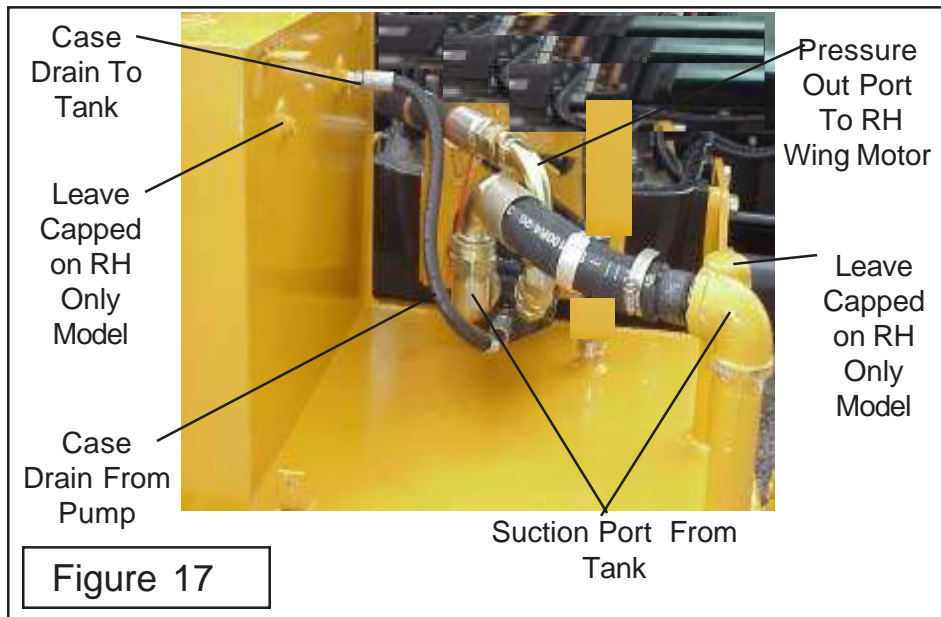

Figure 17
18. Connect Motor Pressure Supply Hoses to Pump. The Pump for the RH Wing Only (Single Pump) has one pressure hose. The LH side (sitting on Tractor looking forward) is the supply for the RH Wing Motor. The hose for the RH Wing should be marked with a red plastic tie on it, Connect these two hoses at the pump now (See Figure 17).
19. Connect Pump Case Drain Hose. The Case drain hose should already be connected, if not connect it now. Hose & Fittings with Pipe thread will need a thread sealer used, do not use excess sealer and no sealer on ID of fittings (See Figure 17).
20. Connect Pump Suction Hose. The Pump Suction hoses will be sent longer than needed and will need to be cut to fit, DO NOT install any suction hose with kinks in them. Kinked hose could starve pump of oil.. (See Figure 17). The Auxiliary. Before connecting the pump suction hose, fill the fitting and hose with clean recommended type hydraulic oil. This will prevent the pump from starting dry and damaging pump, connected pump suction hose now (See Figure 17).
11. Install Wire Harness to Motor Solenoid. The thumb nut on top of the solenoid will allow the solenoid to be turned to different direction if needed. (See Figure 17 & 21)